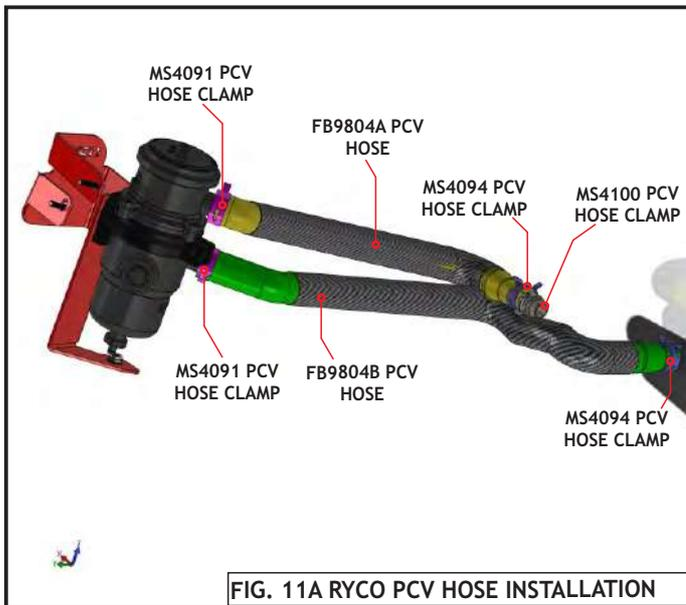

FIG. 11A RYCO PCV HOSE INSTALLATION
- Starting with the longer supplied MH9804B PCV hose, install the small end on to the Engine PCV Port & tighten with a supplied MS4094 hose clamp as shown in Fig. 11A & 11C.
- Install the other end of the MH9804B PCV hose on to the lower, inlet port, of the RCC351 Catchcan and tighten with an MS4091 hose clamp as shown in Fig. 11A & 11C.